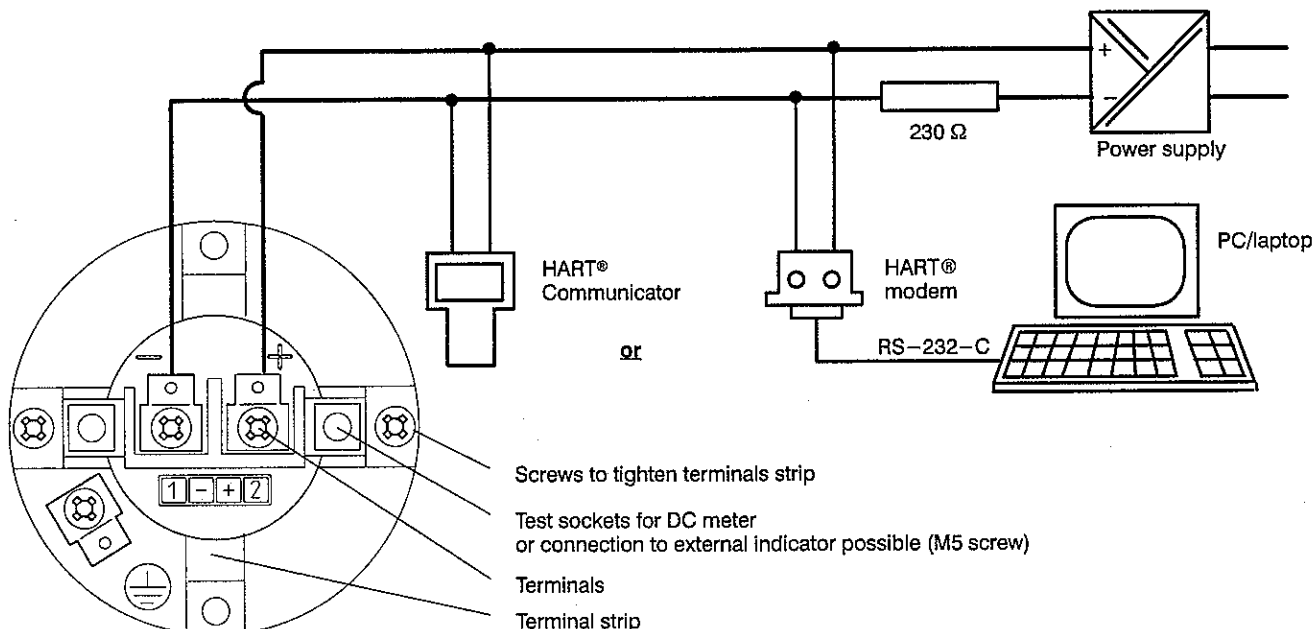
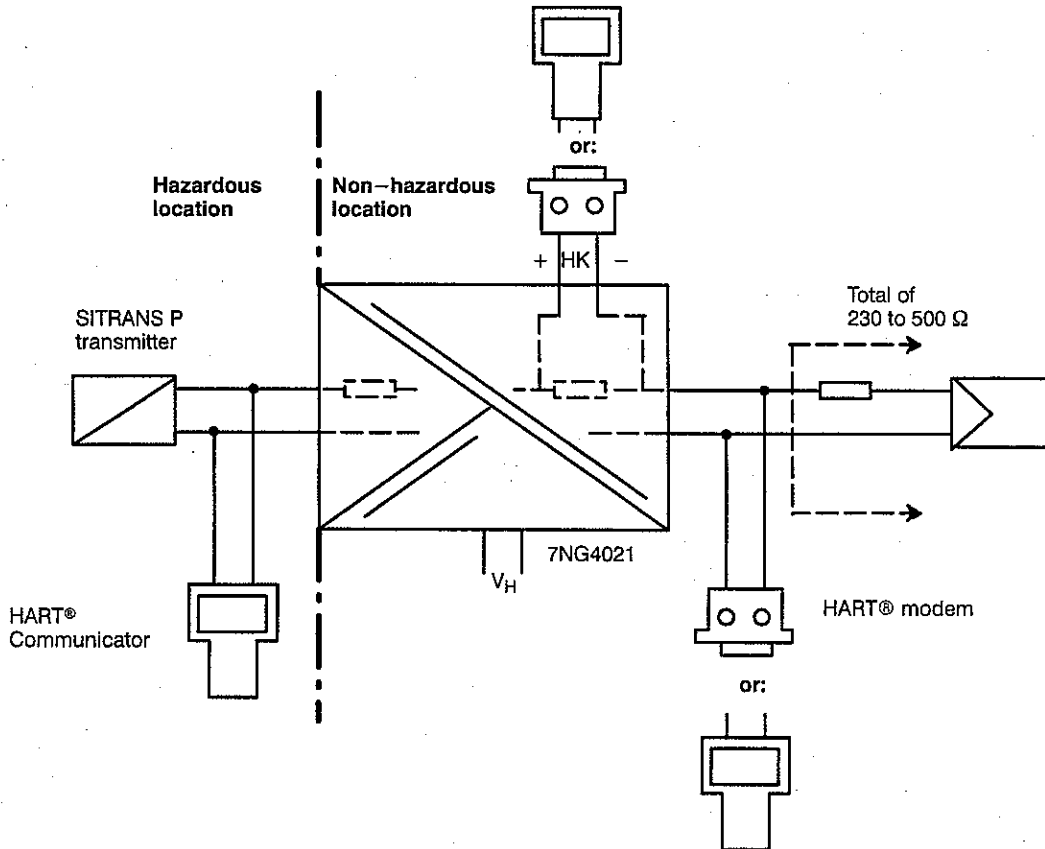

Figure 2.5 Electrical connection schematic
Figure 2.6 Electrical connection with power supply isolator for Smart transmitters
- The terminal strip (Fig. 2.5) can be screwed on to four different positions ($\pm 90^\circ$ or $\pm 180^\circ$ rotation possible). Please notice that the rotation is limited to $\pm 180^\circ$ (proceeding from the fixed position as on delivery).
A faultless communication requires at least a load of 230 Ω within the signal circuit (see Fig. 2.5), when using power supply isolators for Smart transmitters, e.g. Siemens 7NG4021, a load has already been assembled (see Fig. 2.6). The power supply isolator with intrinsic safe input circuit (transmitter circuit) also separates safely between intrinsically safe and not-intrinsically safe circuit. The HART® modem or the HART® Communicator can be connected to the jacks marked HK (see Fig. 2.6).
The HART® Communicator must be connected to the transmitter (see Fig. 2.5 and 2.6).
- Connect a DC meter to the output circuit or the test sockets (see Fig. 2.5)